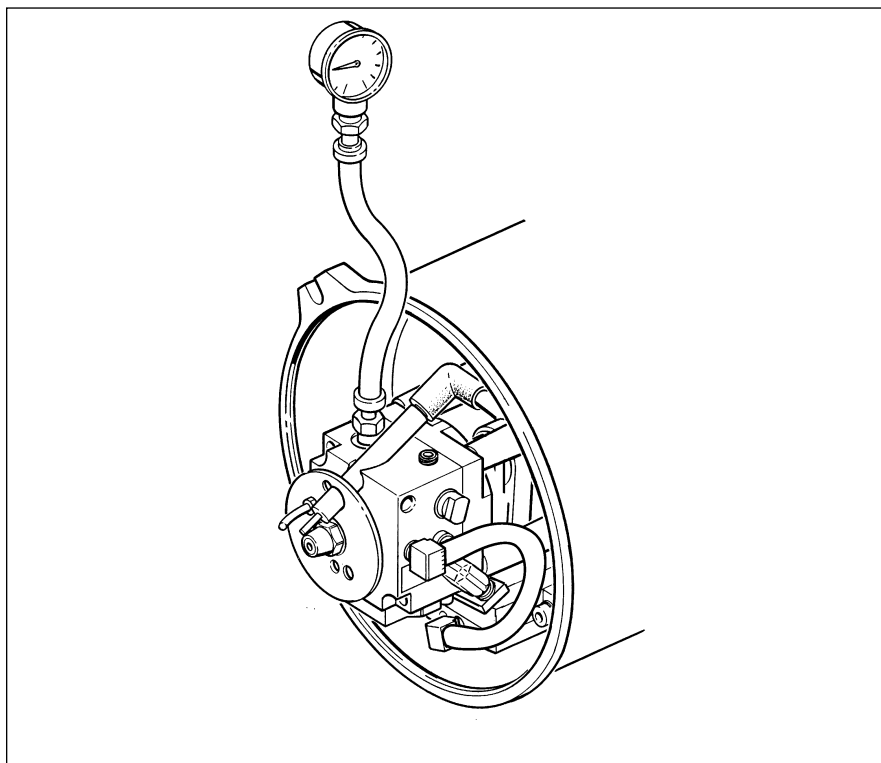

Figure 4-11 Fuel Pressure Test
- b) Remove the o-ring plug from the fuel pump and connect the pressure test gauge P/N PK0067. (see figure 4-11)
Check the electrode gap while the burner head is removed from the heat exchanger. Gap should be as per diagram. (See figure 4-11)